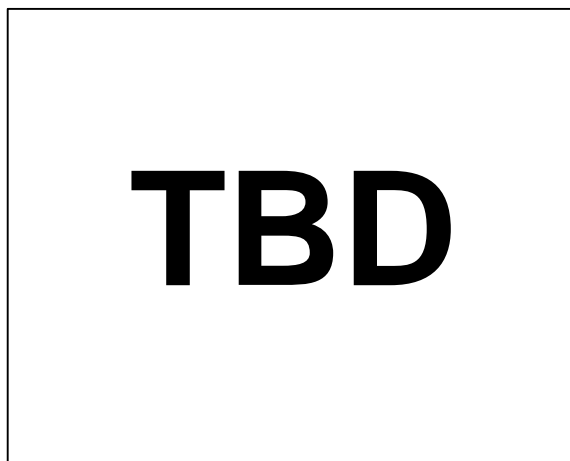

Figure 2. Hardware Configuration, Setting Up the EVAL-AD7175-2SDZ
2. Connect the EVAL-SDP-CB1Z board to the EVAL-AD7175-2SDZ board, as shown in Figure 2.
4. Connect the external 9 V power supply to Connector J5 of the EVAL-AD7175-2SDZ board as shown in Figure 2. Set LK2 to Position B.